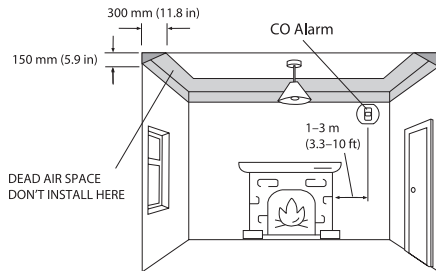

Figure 1: Installation in a room with a fuel-burning appliance
1. Installing a CO alarm in a room with a fuel-burning appliance (see Figure 1):